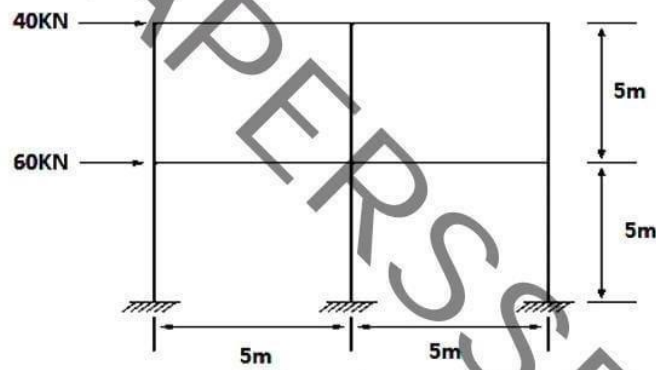

Figure 4
6. Analyze the frame shown in Figure 4 by Cantilever method. [15]